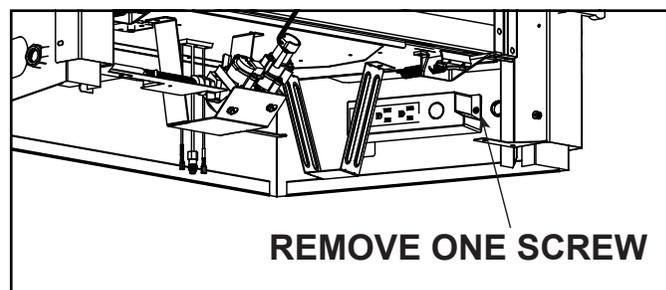

Figure 8.3 Junction Box Detail - COSMO32-IFT-B
**COSMO32-IFT-B:** The junction box is secured to the fireplace outer wrap. Remove one screw. See Figure 8.3.